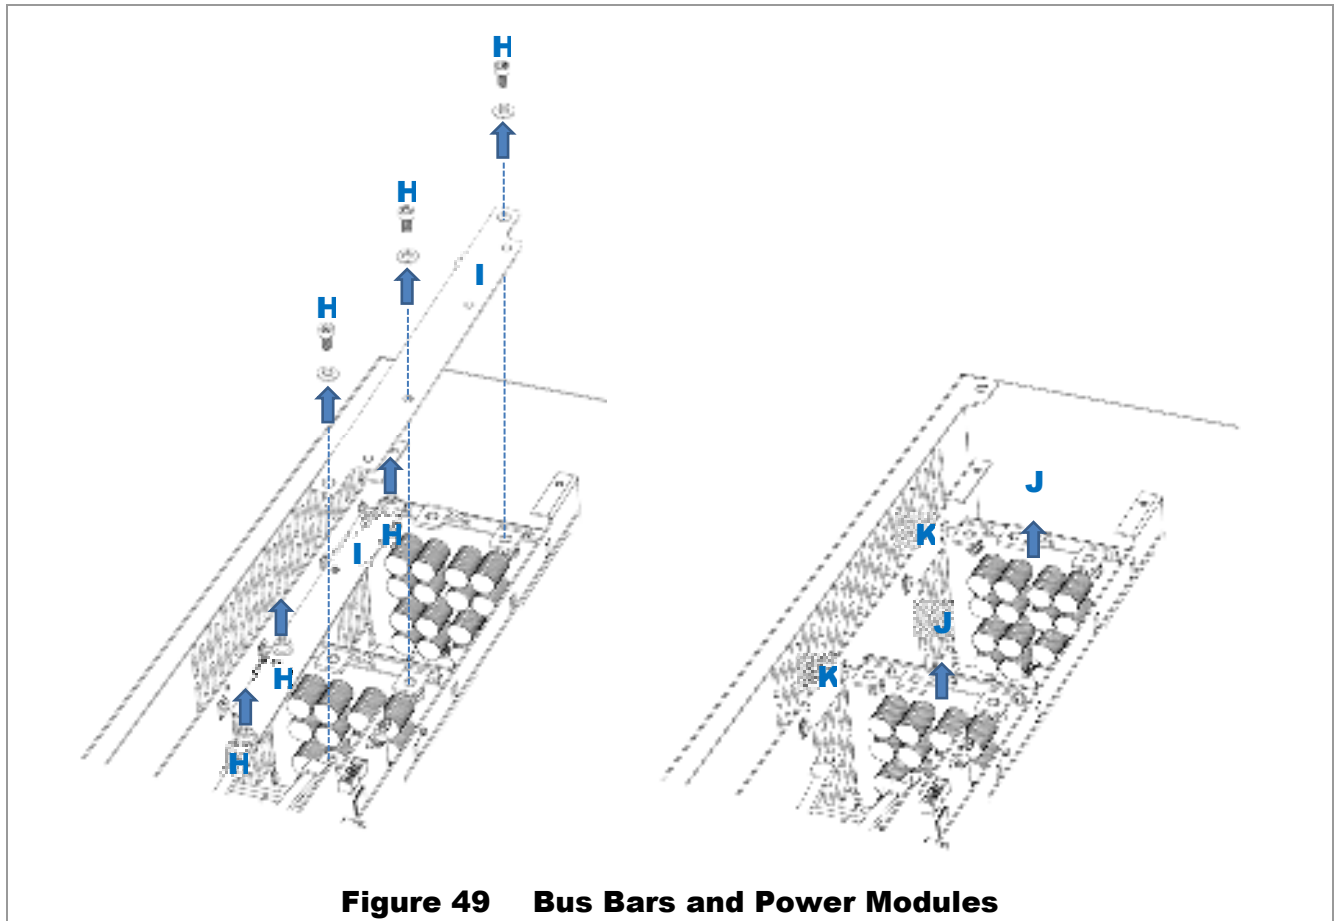

Figure 49 Bus Bars and Power Modules
- Using a 5 mm hex (Allen) wrench, remove bolts for bus bars. See all items **H** in Figure 49. Remove the two bus bars **I**.
- Remove the power module to be replaced. Pull upward to unsocket the module. See **J** in Figure 49.
- Insert the power module into its slot. Ensure that the new board is slotted into the card guides **K**. (See Figure 49.) Ensure it is seated firmly.
- Replace bus bars **I**. Replace bolts **H**. Tighten to a torque value of 60 in-lb (6.8 Nm). See Figure 49.